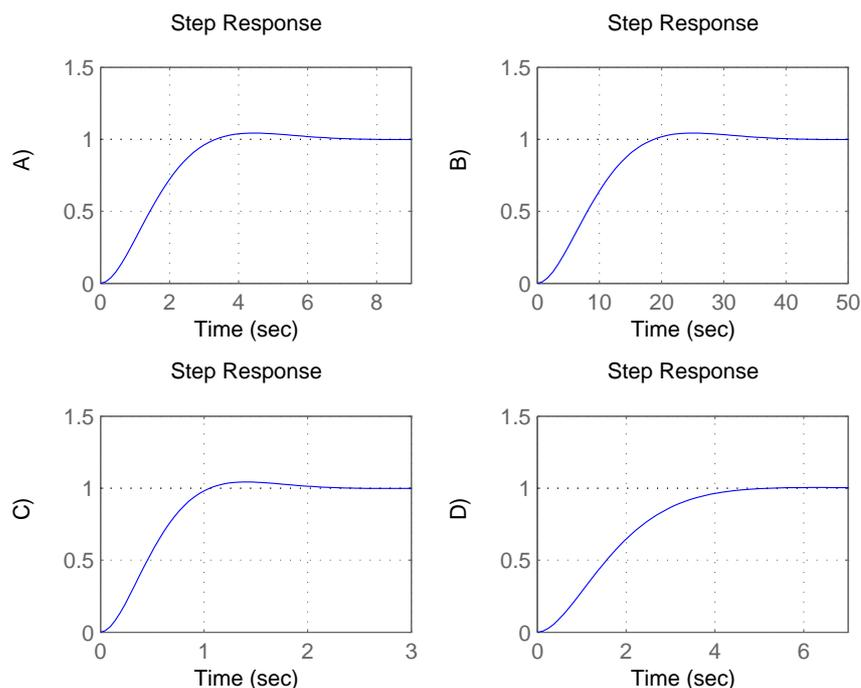

Figure 8.1 Step responses for LQ-control of the system in Problem 8.6 with different weights on Q_1, Q_2 .
- c. The four plots in Figure 8.1 show the step responses of the closed loop system for four different combinations of weights, Q_1, Q_2 . Pair the combinations of weights given below with the step responses in Figure 8.1.